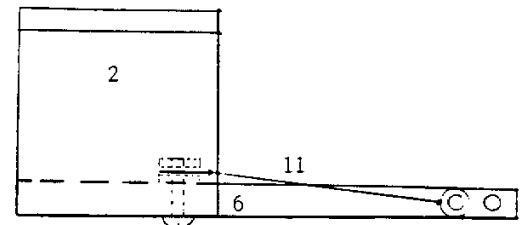

Figure 4
9. Slip the wire eye of the Grounding Wire (11) onto the rear bolt on the Bottom Support. Thread a second hex nut onto the rear bolt and tighten to hold the Ground wire in place. (see fig. 4, pg. 6)